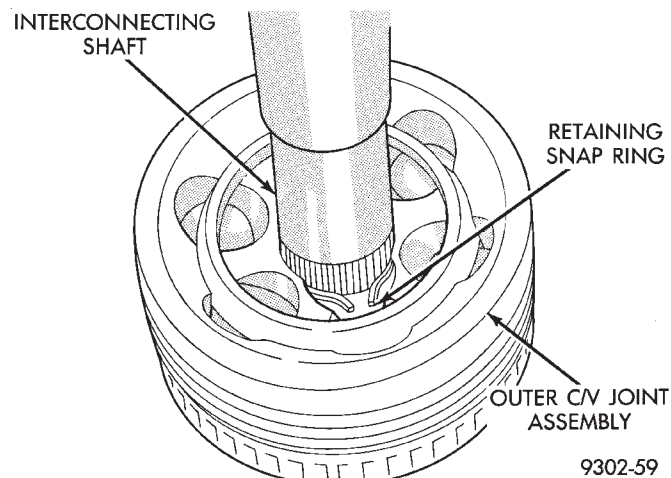

Fig. 3 Outer C/V Joint Installed On Interconnecting Shaft
(2) Install outer C/V joint assembly onto interconnecting shaft. Joint is installed on interconnecting shaft, by pushing interconnecting shaft into outer C/V joint, until retaining snap ring is seated in groove on interconnecting shaft (Fig. 3). Be sure the snap ring is fully seated into groove on interconnecting shaft.